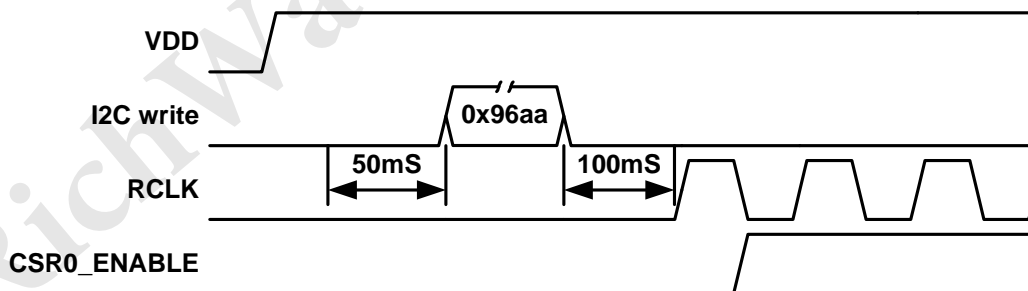

Figure 1. Initialization sequence
The initialization sequence can be referenced in Figure 1.
5. Set CSR0\_ENABLE=1 to enable FM as defined in Figure 1.